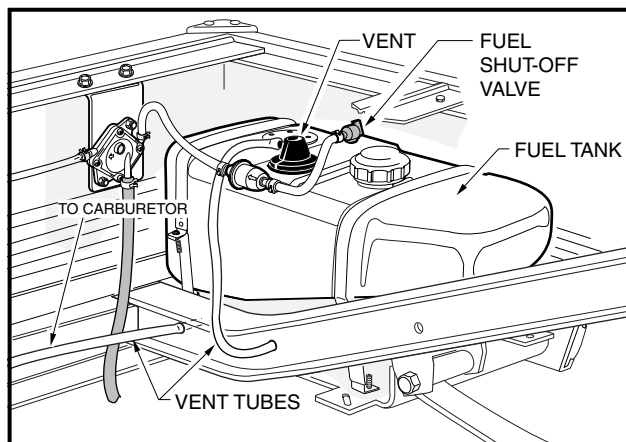

Figure 18 Fuel Tank
1. Restore fuel system to operation (**Figure 18, Page 27**).
- If the vehicle has an all-weather enclosure installed, be sure the fuel tank is properly vented as shown (Figure 18).